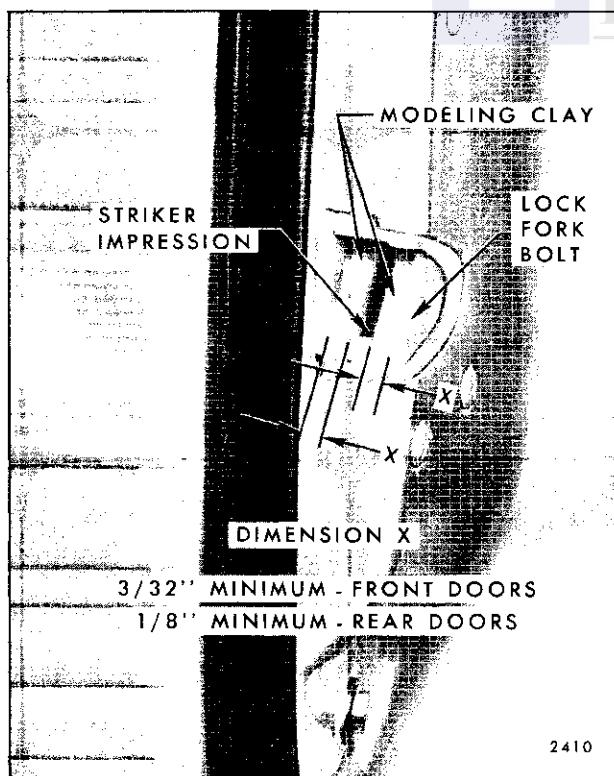

Fig. 6-26—Lock to Striker Engagement
- b. Apply modeling clay or body caulking compound to lock bolt opening as shown in Figure 6-26.
- c. Close door only as far as necessary for striker bolt to form an impression in clay or caulking compound as shown in Figure 6-26.
Striker head should be centered fore and aft as shown, however, some tolerances are allowed. In any alignment, it is important that minimum dimensions, as outlined in Figure 6-26 be strictly maintained. The following spacers are available as service parts and can be used individually or in combination to achieve the desired alignment.